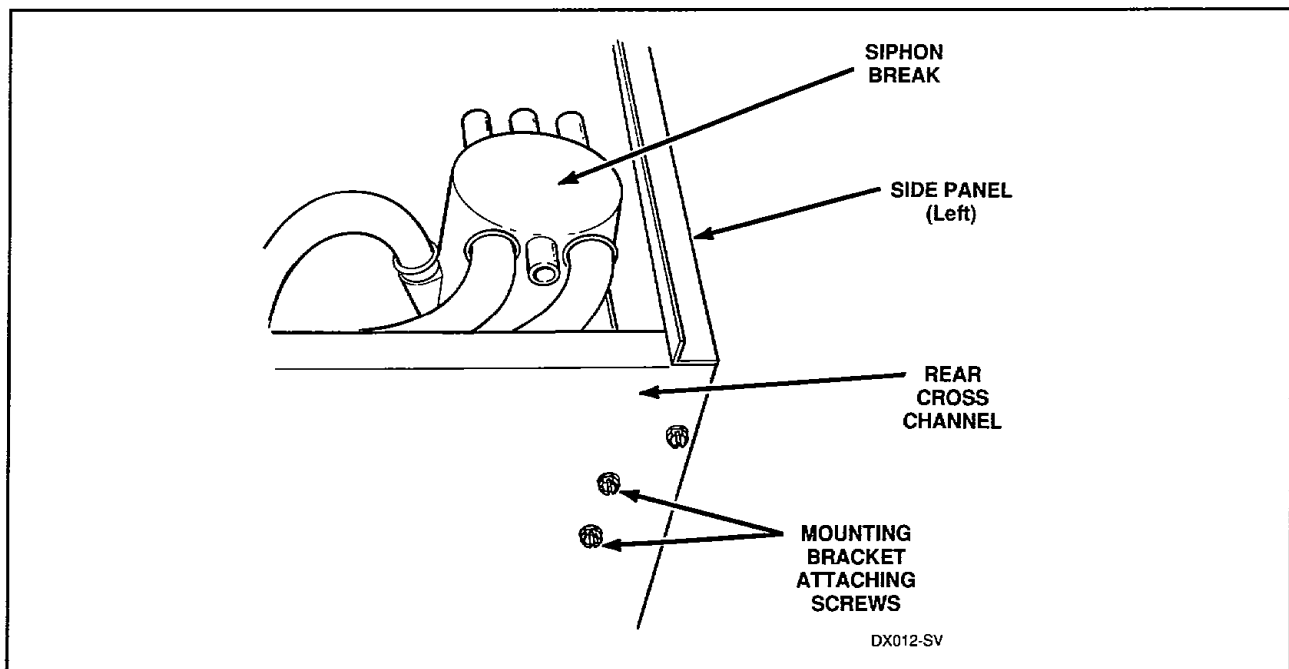

Figure 18
- f. Remove two screws holding siphon break and bracket to rear cross channel, *Figure 18*.